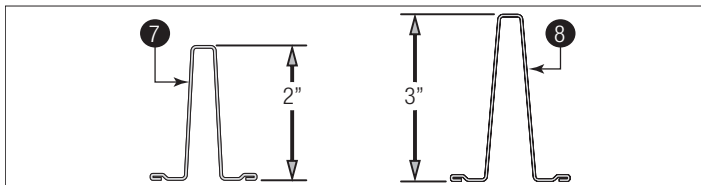

Figure 19
IMPORTANT: Measure the height of your strut to determine if you have 2" Struts ⑦ and or 3" Struts ⑧. See Figure 19.